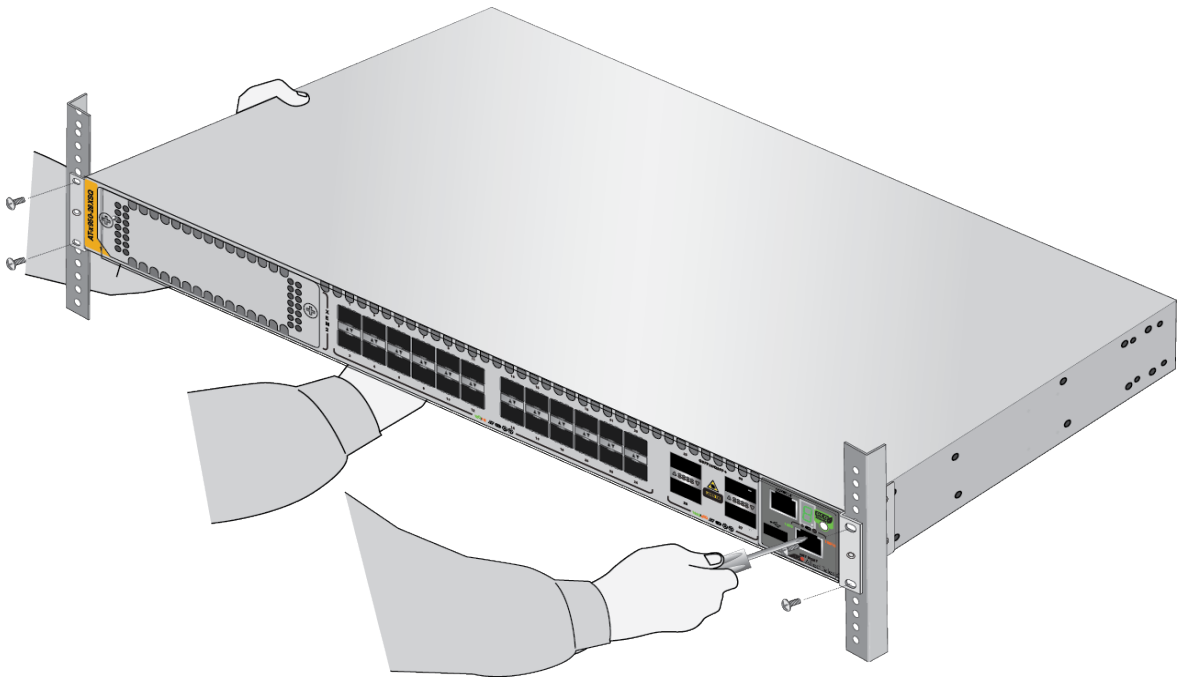

Figure 86. Installing the Switch in an Equipment Rack
4. Have another person hold the switch in the equipment rack while you secure it using standard equipment rack screws (not provided). Refer to Figure 86.